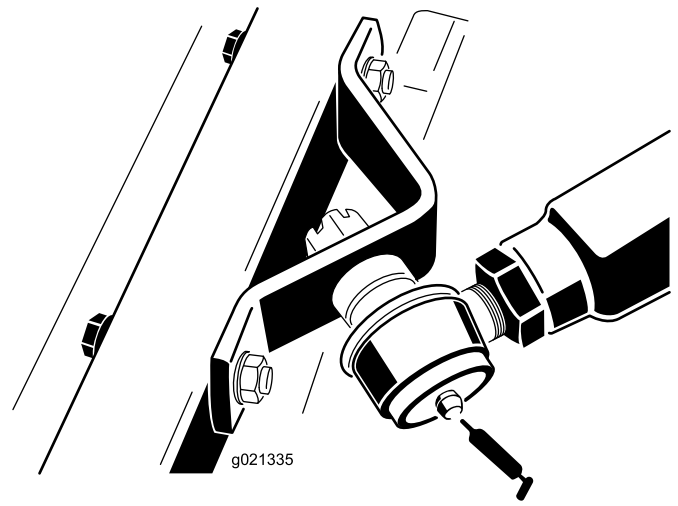

Figure 19
- Right and left push arm ball joints – 1 each (Figure 19)